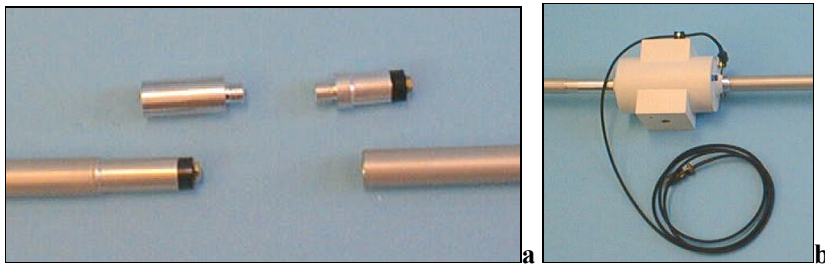

Figure 13. Connection of threaded staff adaptors.
- 4) Next, connect the threaded staff adaptors parts to the top of one staff section and the bottom of another staff section as shown in Figure 13 a. The bottom sensor is configured with opposing mounting points and the adaptors should be screwed into one set of these mounting points as shown in Figure 13 b.